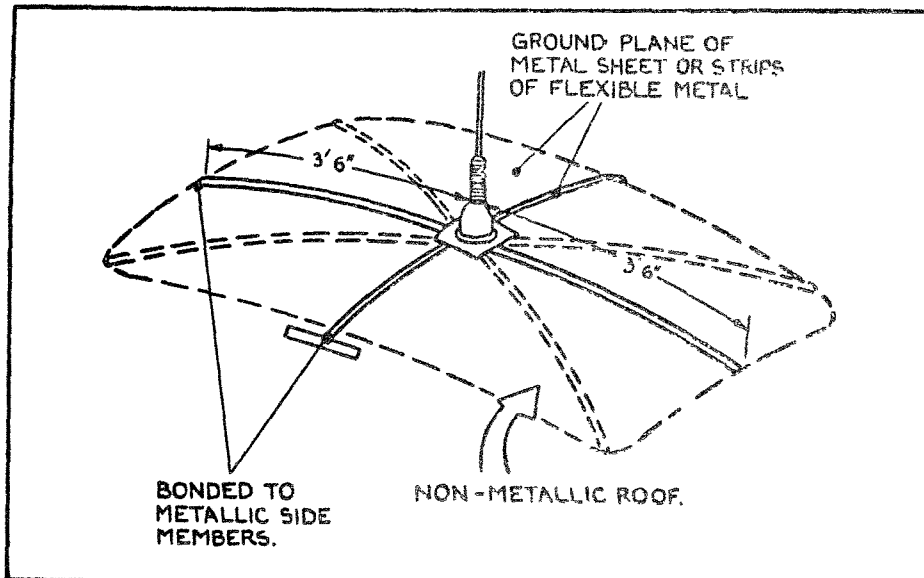

FIG. 3.3.
- 3.3.3. In the case of vehicles having a non-metallic roof, a ground plane must be provided to enable the aerial to have the correct capacity needed to give efficient radiation properties. This ground plane can consist of a sheet of metal in the same plane as the roof and surrounding the base of the aerial. Alternatively, it can more conveniently be simulated by the use of four or more strips of flexible metal or metal braid radiating spoke-wise from the aerial base. This ground plane should, wherever possible, extend at least 3'6" fore and aft of the aerial position, be taken the full width of the vehicle and bonded to metallic side members. (See Fig. 3.3. overleaf).